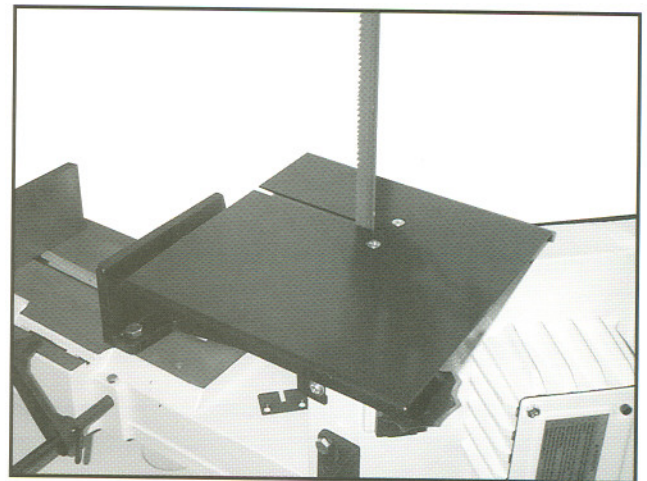

Fig. 4
- Guide the blade through the slot in the table and fasten with two screws. See Fig. 4.